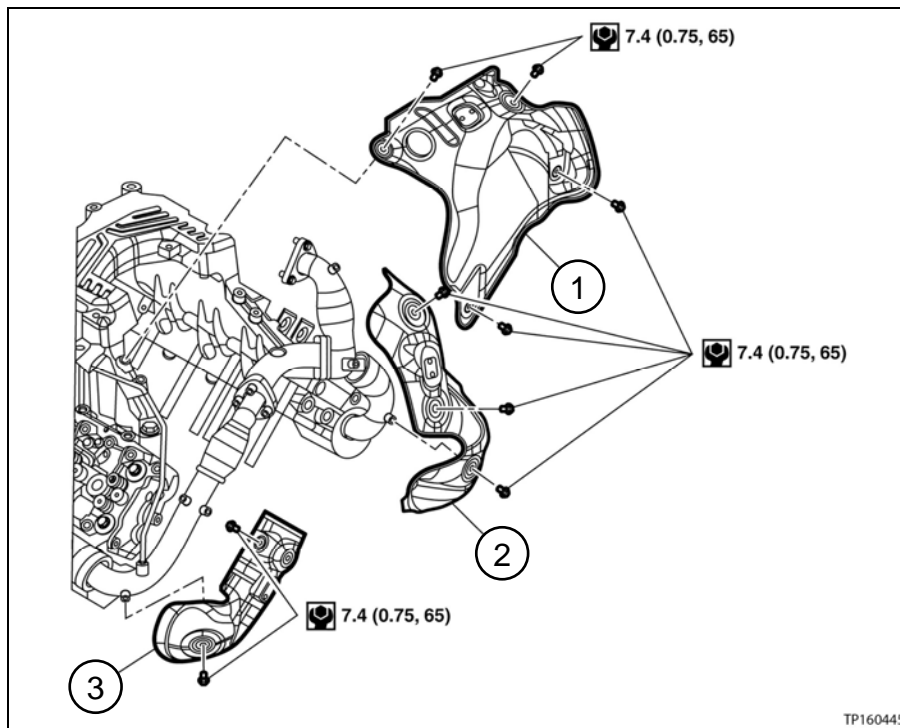

Figure 11
10. Remove the nine (9) bolts, and then remove all three heat shields (see Figure 11).